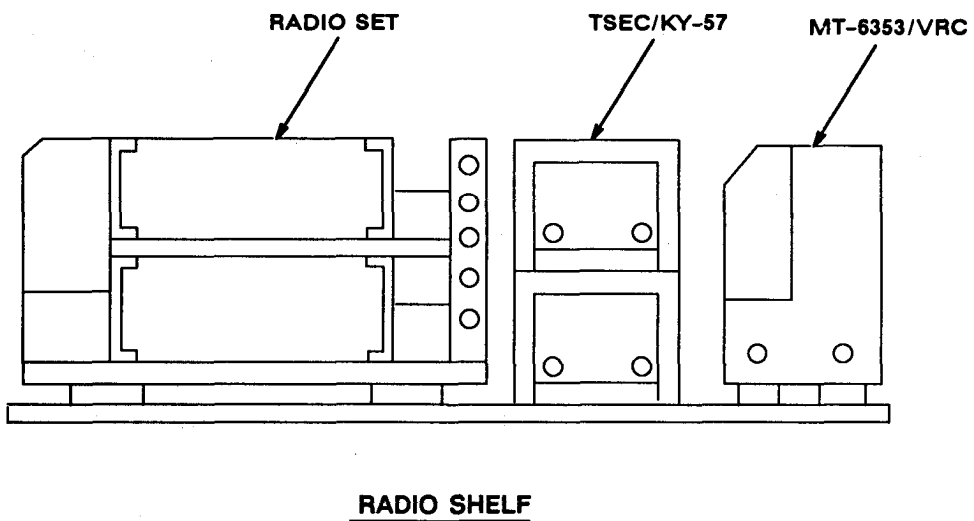

Figure 5-1 (2). MK and Radio Installation: Radio Equipment Locations
5.1 Installation of Antenna AS-3900/VRC (antenna). Use the following procedure to install both antennas. See figure 5-1 (1) locations.